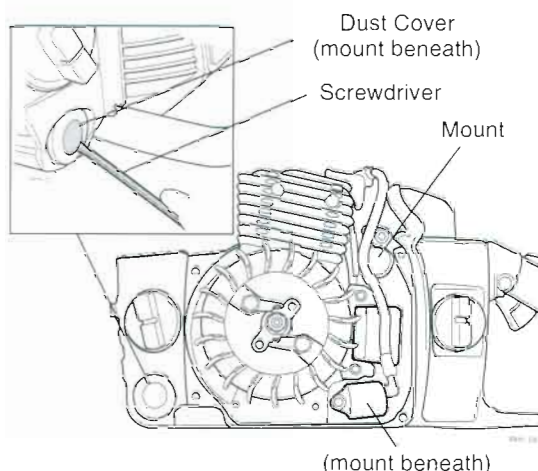

Figure 8.2 Mount Locations (575 shown)
STEP 1. Use a screwdriver to pry the dust caps from over the A-V mounting cushions. Loosen and remove all mounting screws or limiter bolts from the five A-V cushions (six cushions used on Model 757 (Figure 8.2)